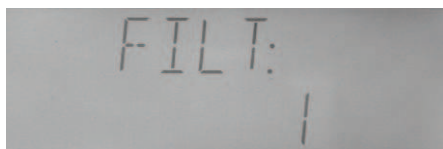

Figure 4-11 Filtering depth setup
- e) Select "FILT" through **【◀】** or **【▶】** key, as shown in Figure4-11.